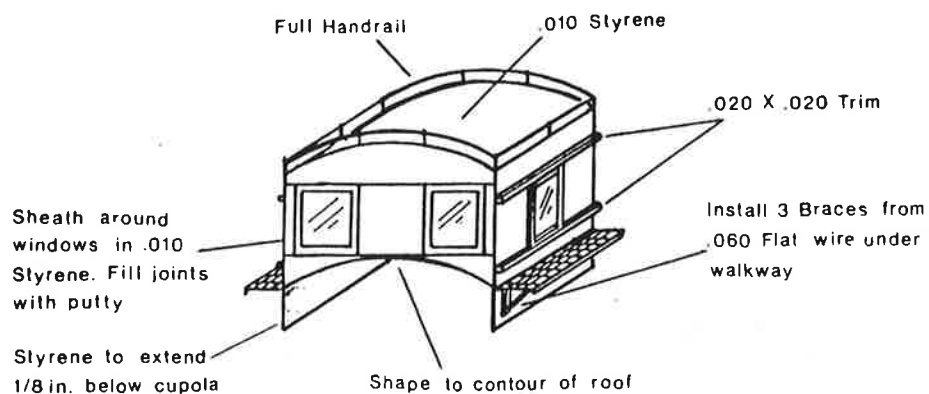

FIGURE 2
Step 22: Install 400 grit sand paper for roof surface, then install cupola with elastic bands only. Install cupola side window guides above and below the window horizontally the length of the cupola using the .020 x .020 inch stock supplied (see Figure 2).
Step 26: Cement 400 grit sand paper to top of cupola and mount continuous grab iron as in Figure 2. (Editor's note: Photographs from 1965 show the cupola roof painted orange. Some cars may have received tarpaper over the steel roof - check photos.) Paint cabooses, cupola, windows and doors all Salmon orange. Apply lettering (CDS 124) and spray with dullcoat. Install window glazing and cement windows, doors and cupola in place.
Step 27: Discard upper portion of smoke jack and file to create a straight pipe stack as in Figure 1. Form .015 wire around the stack and secure to upper front of cupola. Using metal roof walk (1/8" x 1") install to side of cupola. Form the three brackets using flat wire (see Figure 2).